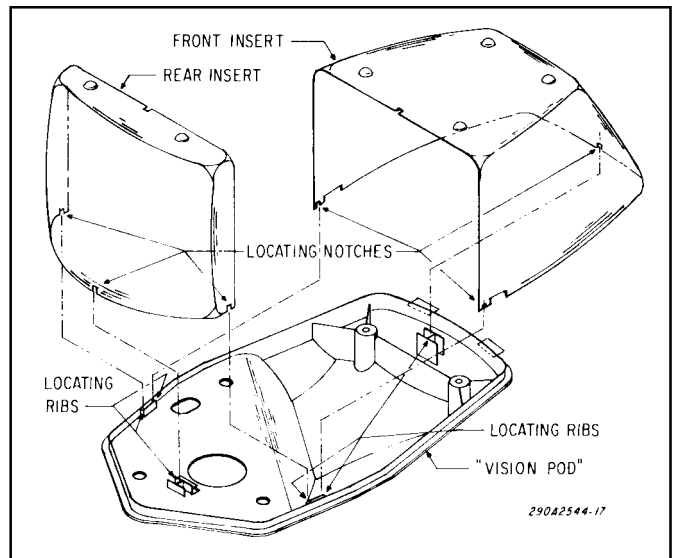

Figure 3-1. Dome Insert Installation.
- C. Place the front or rear insert in position and ensure that the locating notches are properly positioned on the locating ribs as shown in figure 3-1. If applicable, repeat with the other insert.